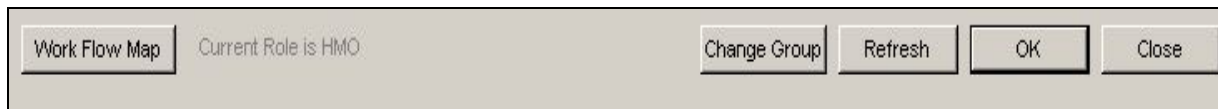

Figure 7-6: Mitigation Work Packet List Buttons
5. On the bottom part of the Mitigation Work Packet List screen, the following buttons are available (Figure 7-6).